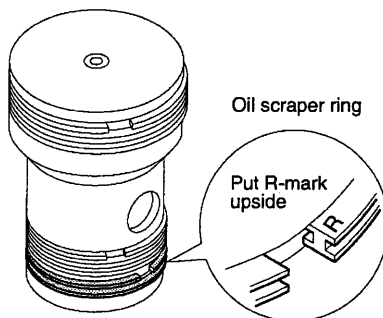

Fig. 38
- (1) Two oil scraper rings are set on piston skirt.
- (2) Check direction of the ring (face and back) and extent of wear. (Fig. 38)